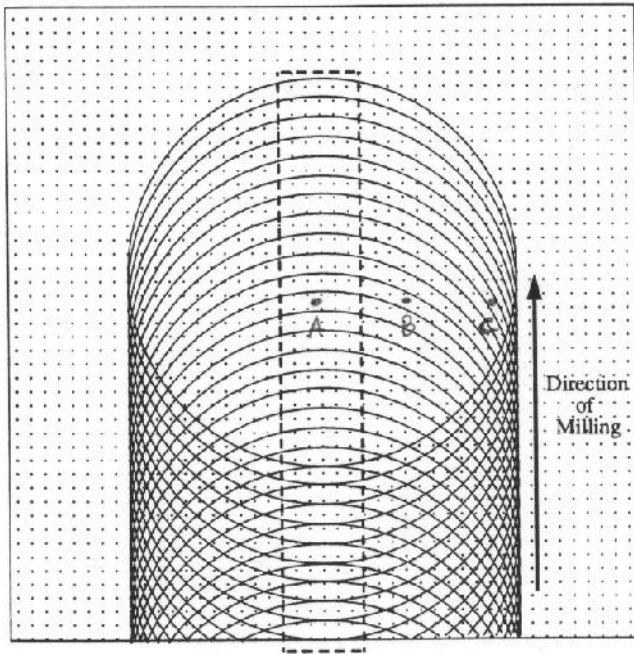

Figure 1 Measurement positions for the milled part.
6. Repeat 2 through 4 with a milled piece at three different locations: at the center of tool path (perpendicular to lay, position A), at the mid-point (approximately 45 degree to lay, position B) and at the outer point (approximately 60 degrees to lay, position C). See Figure 1.